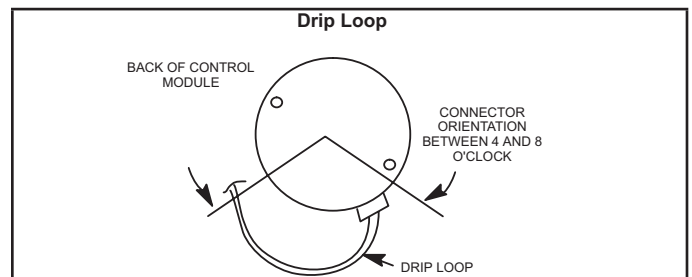

FIGURE 19
- 5 - The electrical connectors of the motor should be facing down to form a drip loop (FIGURE 19). This will directs moisture away from the motor and its electric connections on the motor